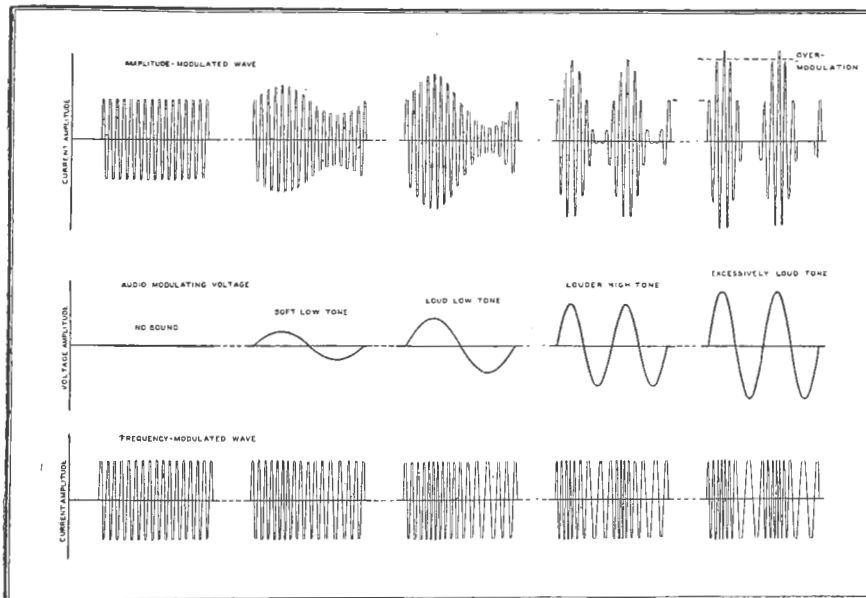

Figure 1—This diagram illustrates the basic difference between the amplitude and frequency method of modulating the carrier wave of the transmitter.
The two terms *amplitude modulation* and *frequency modulation* are largely self explanatory. The type of transmission used in this country is known as the amplitude-modulated (AM) system, and in this the waveform of the current in the transmitting aerial—and also the receiving aerial—is similar to that shown in figure 1.